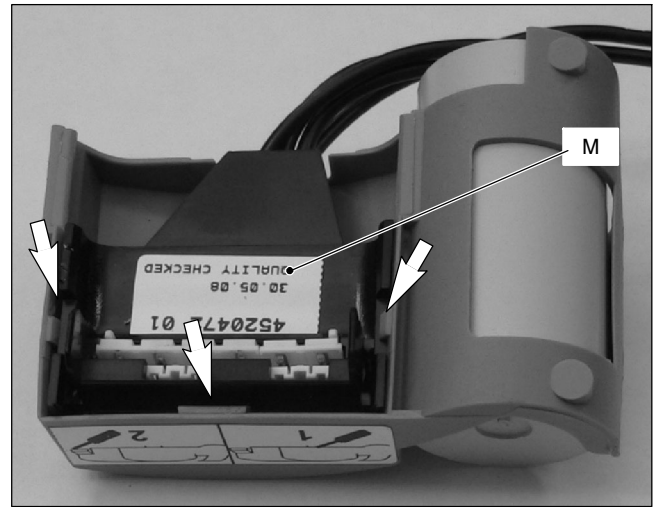

Fig. 7.5
- 3 Remove the connector *M* of the cover box by levering with a screwdriver in as shown in (Fig. 7.5)